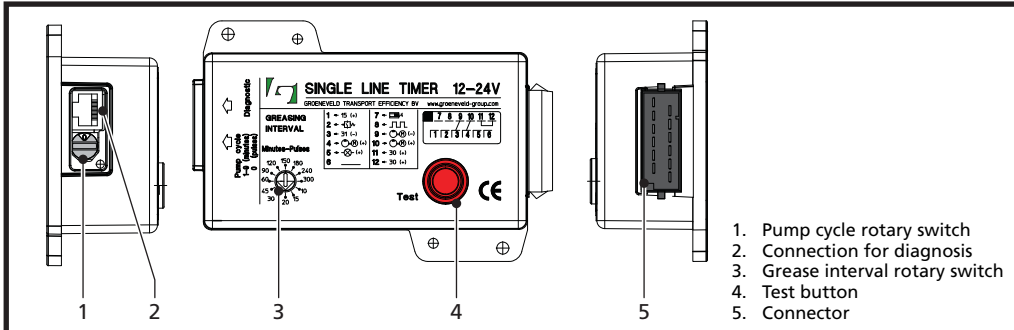

Figure 4.1 SingleLine Timer (SLT)
The greasing interval time can be adjusted with the grease interval rotary switch (Figure 4.1/3) at the SLT. Rotate the switch by using a suitable screwdriver, to the desirable position. As a confirmation, a short audible beep sounds when rotating the switch in each position. A greasing cycle starts automatically after every completed greasing cycle and set greasing interval time.
The greasing interval pulses can be adjusted with the rotary switch (Figure 4.1/3) at the SLT. Rotate the switch by using a suitable screwdriver to the desirable position. As a confirmation, a short audible beep sounds when rotating the switch in each position. A greasing cycle starts automatically after every completed greasing cycle and the set number of pulses.
Adjustment possibilities of the pump cycle rotary switch (Figure 4.1/1)
At position 0 the SLT will act as pulse timer. Therefore pin 8 of the SLT connector (Figure 4.1/5) requires to be connected to the brake lights or pulse switch for example. Hereby the pumping time is locked into a fixed value of 3 minutes and not changeable.
2. Turn rotary switch (Figure 4.1/1) to position 9.
4. Manually operate one greasing cycle, by pushing the red test button (Figure 4.1/4) until a short audible beep will sound, hence release the test button and a greasing cycle starts momentarily.
5. Turn the rotary switch of the pump time (Figure 4.1/1) to the correct position after determining the pumping time between the manually started greasing cycle and the on-pressure signal. The correct position: round the determined pumping time to the next full minute and add one minute (see example).
Push the red test button (Figure 4.1/4). After 1 second a short audible beep will sound. Release the test button and a greasing cycle starts momentarily.
Push the red test button (Figure 4.1/4) for 6 seconds. After the short audible beep sounds a pulsing audible beep follows. Accordingly release the test button and a 10-greasing-cycle program starts momentarily. Only in this mode the interval times between the greasing cycles are equal to pumping time pre-set by the rotary switch.
2. Push the red test button (Figure 4.1/4) for 0.5 seconds.